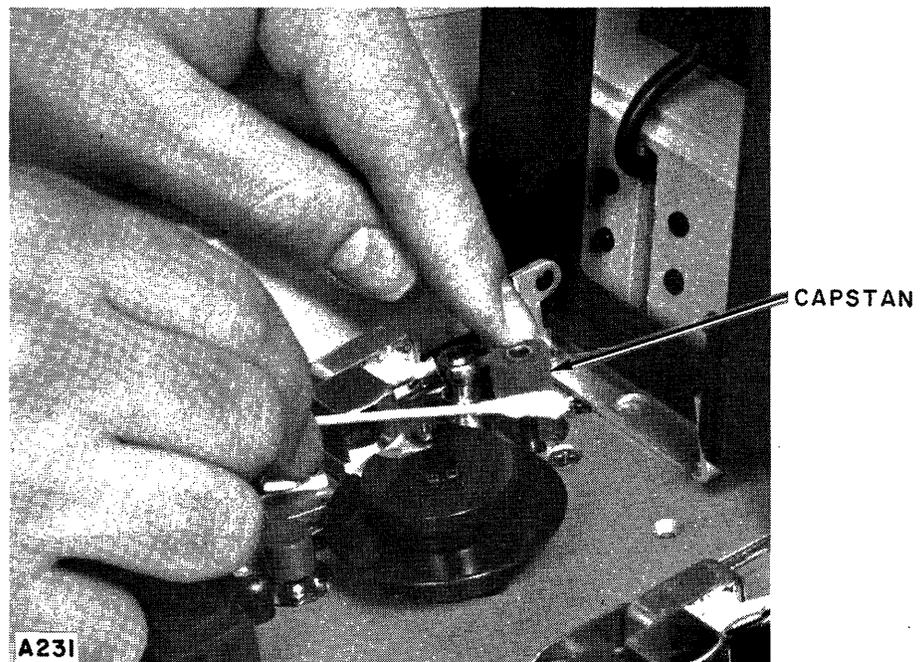

Figure 4-4. Cleaning the Capstan After Leader Removal
- e. Wet a cotton swab with Freon liquid. Scrub the two tape heads, tape guides, and the capstan. The capstan must be held while being scrubbed, as shown in figure 4-4. The scrubbing motion must be from the side in order to clean the area where the tape moves. Keep the cotton swab wet, and replace it if it becomes dirty.